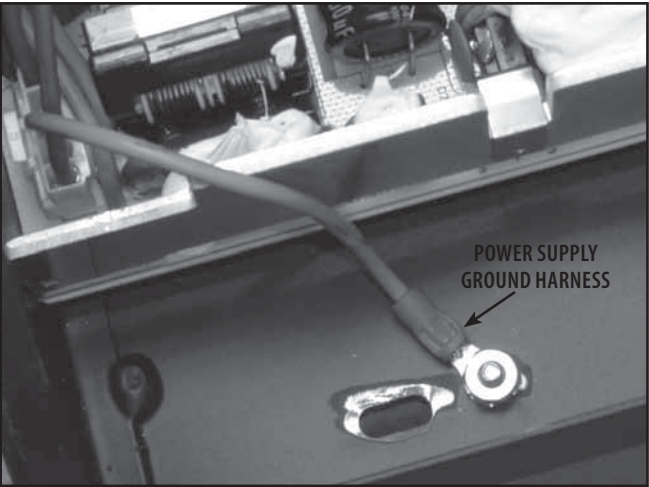

FIGURE 5.3
4. Disconnect the Power Supply Ground Harness from the frame. See Figure 5.3.